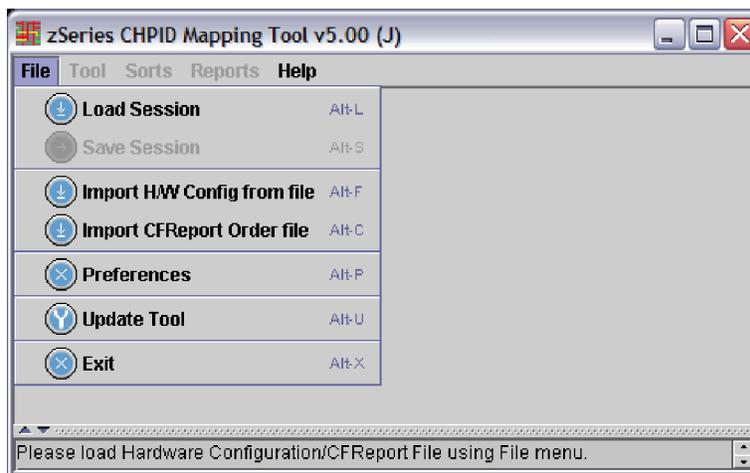

Figure 8. Selections under File
- a. Click **File**. This displays selections as shown in Figure 8.